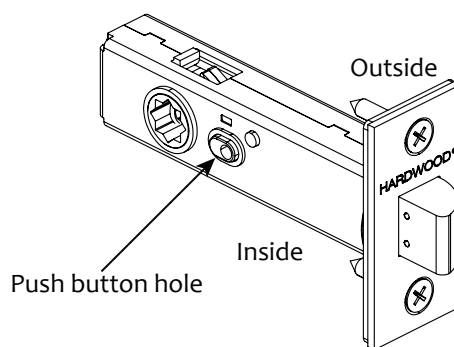

Figure 7
- Install two (2) PH Flat #8-32x3/4" + #8 screws and check the door swing, do not tight the screws before step B is finished.
- For B10-03/03F privacy function, push button hole face inside of door (Figure 7).